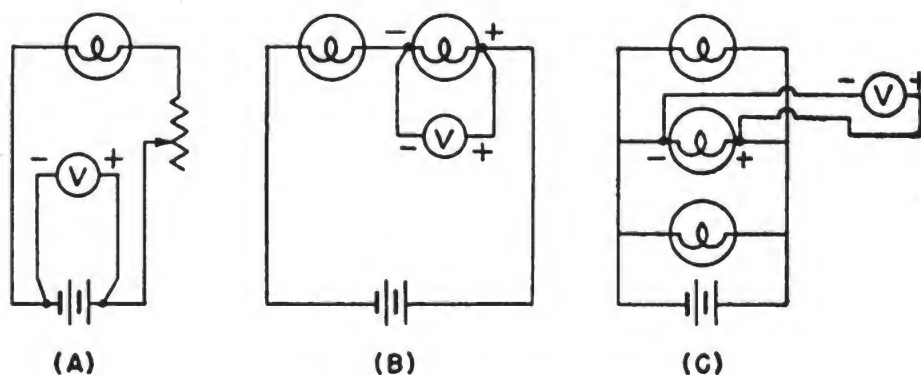

Figure 31.—Measuring voltage.
terminals of the battery as in (A) of figure 31. To measure the voltage applied to a single path of the circuit, you connect the voltmeter directly ACROSS the terminals of that part, and thus get the potential difference, or voltage, between two points as in (B) and (C) of figure 31.